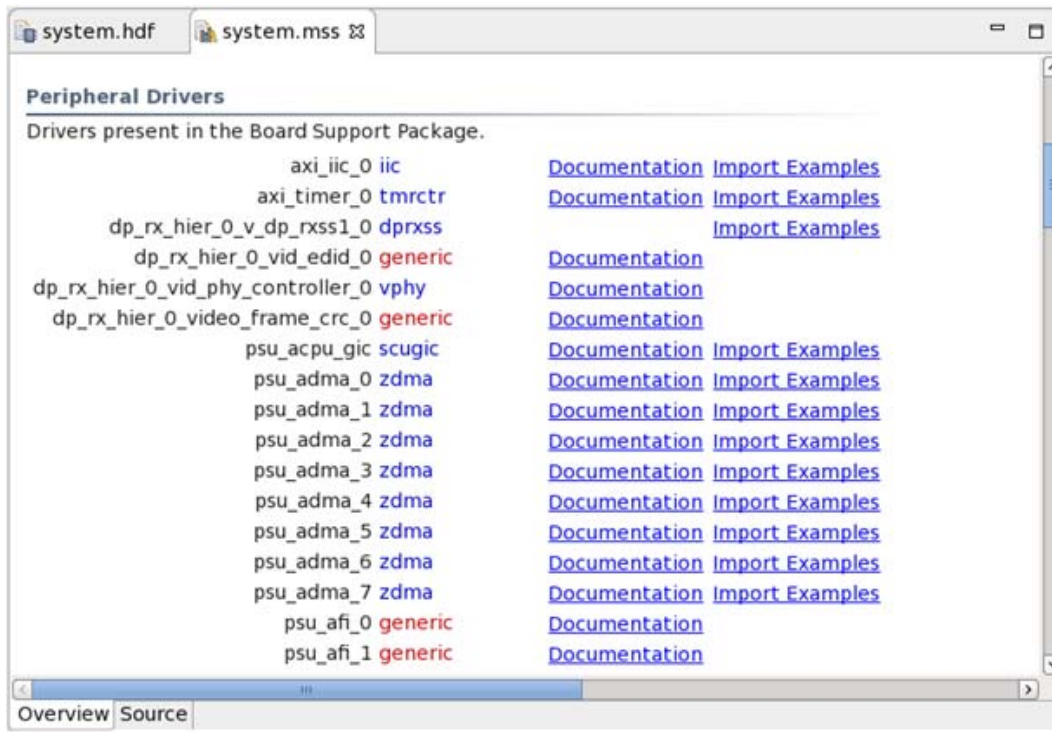
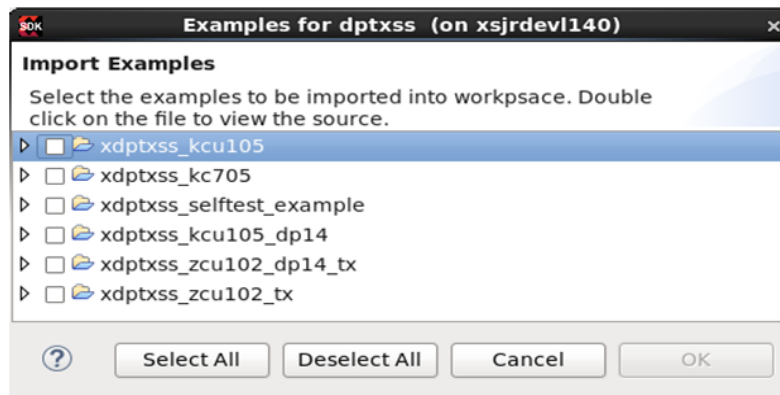

Figure 5-15: `system.mss`
Figure 5-16: **Import Examples**
- Find DisplayPort RX/TX Subsystem Driver in the `system.mss` file (Figure 5-15). If it is not, open the file from the BSP in the **Project Explorer**. Click **Import Examples** (Figure 5-16).